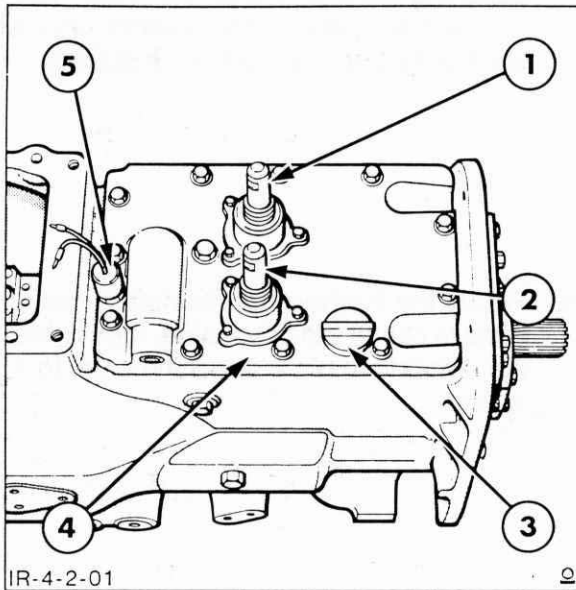

Figure 4-142
2. Ensure the gearshift lever and range lever are in neutral. Remove the cover plate retaining bolts then remove the cover plate and gasket, Figure 4-142.